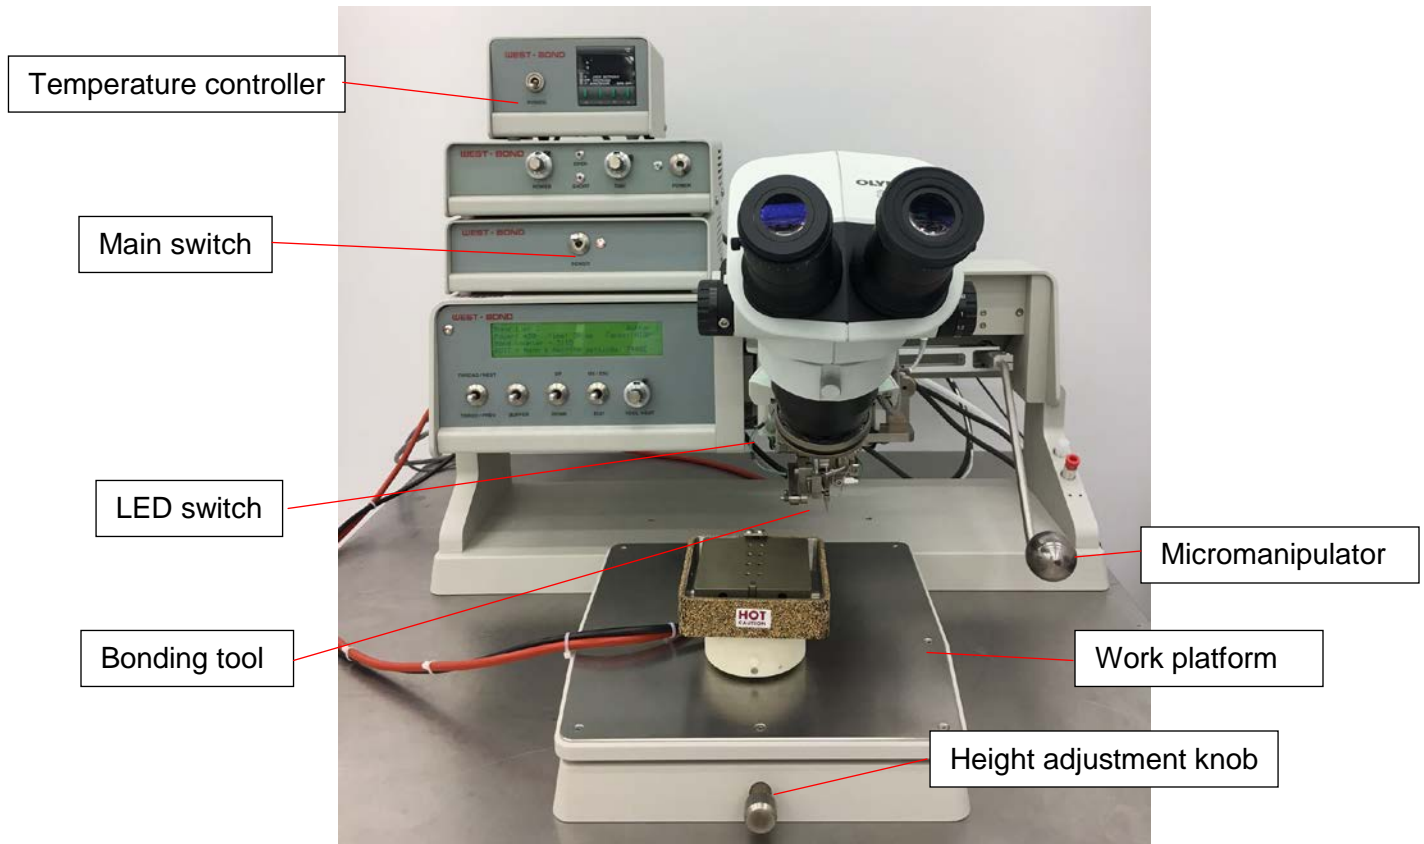
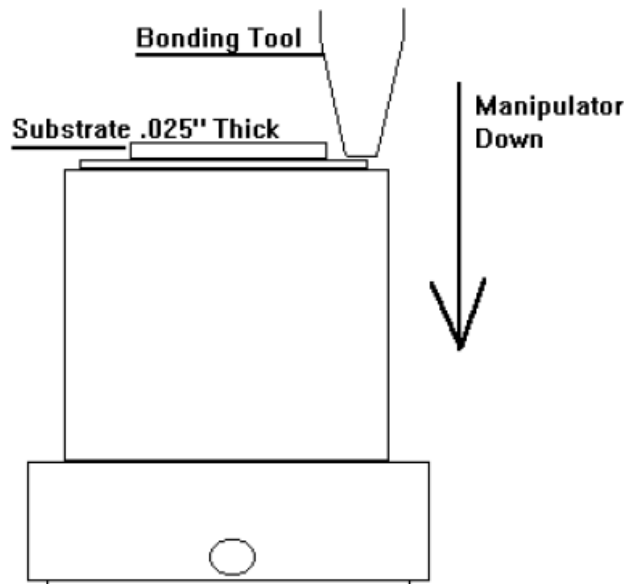

Figure 2: Parts of the bonder.
Figure 4: height adjustment.
- 2) Power on the main switch and the microscope LED switch (Figure 2).
- 6) Lower the bonding tool by holding the micromanipulator in its lowest position and adjust the height of the work platform by rotating the height adjustment knob (Figure 2). The bonding surface should be approximately 0.7 mm higher than the tip of the bonding tool (Figure 4).